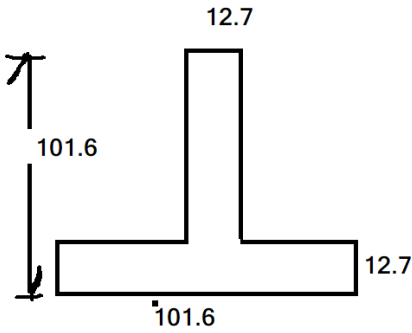

figure 3
- (b) Determine the moment of inertia for a section shown in figure 3. All dimension are in mm. **03**